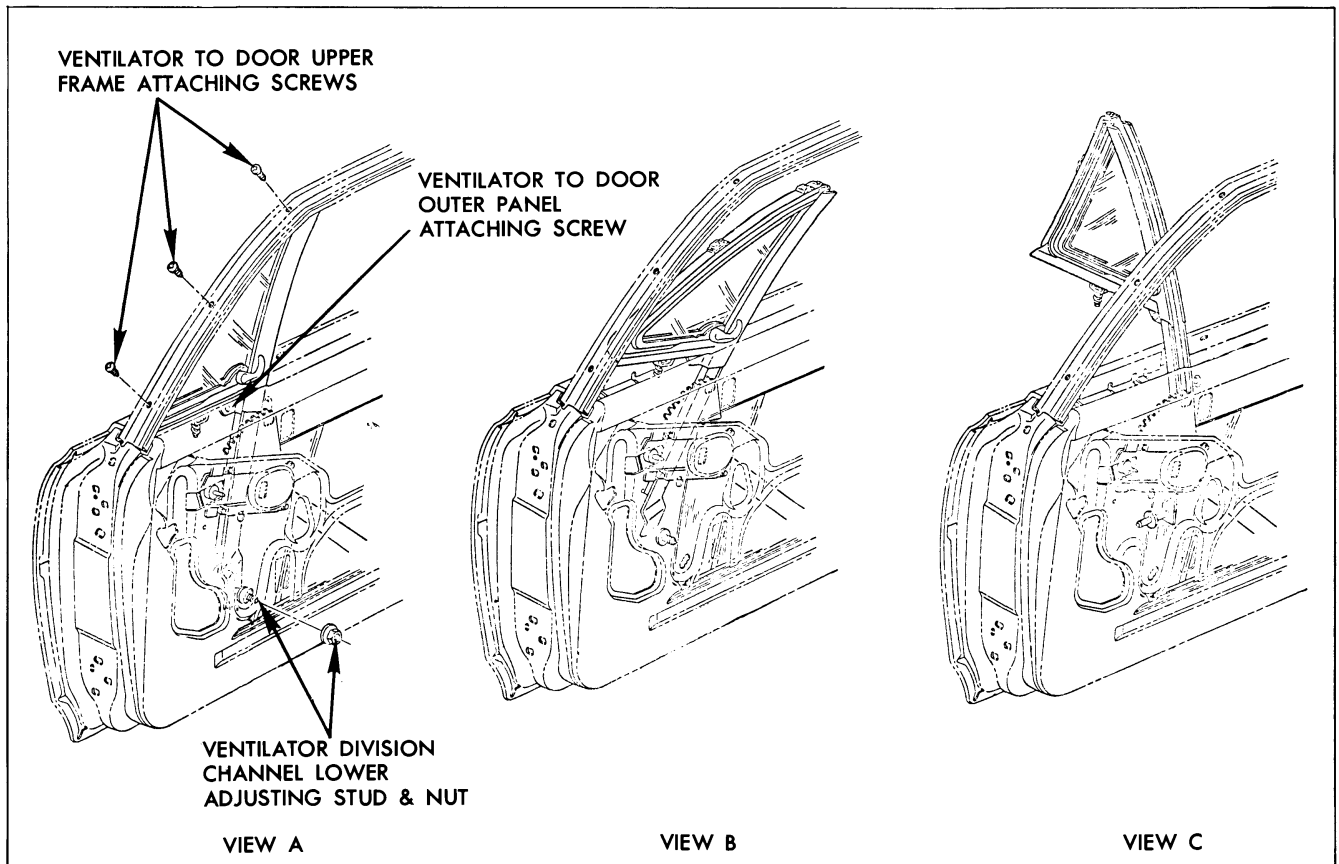

Fig. 12-26 Ventilator Removal
panel return flange attaching screw, and three ventilator to door upper frame attaching screws (View A, Fig. 12-26).
6. Lift ventilator rearward and upward until lower forward corner of assembly is free of door upper frame (View B, Fig. 12-26).
7. Rotate ventilator assembly in an outboard movement and remove unit outboard of door upper frame (View C, Fig. 12-26).
1. A slight fore or aft adjustment of the ventilator division channel is available at the lower adjusting stud and nut by loosening attaching nut and sliding nut in slot provided (Fig. 12-26). The division channel can also be positioned in or out by loosening nut and turning stud in or out as required and tightening nut.